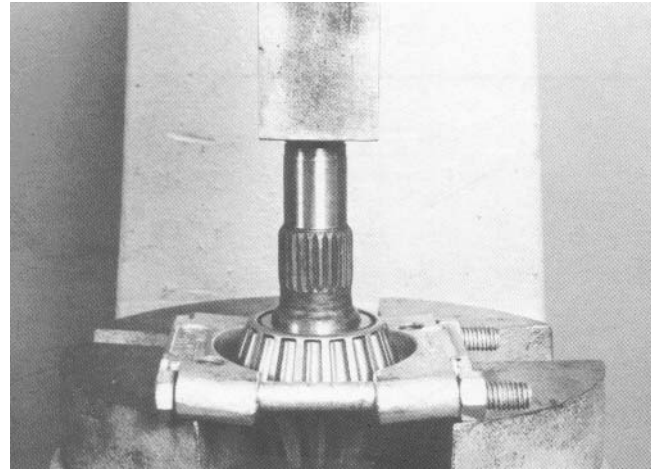

Figure 22
15. Clamp the inner pinion bearing with a universal bearing remover (Fig. 22). Position the unit in a press and carefully push the drive pinion out of the bearing.